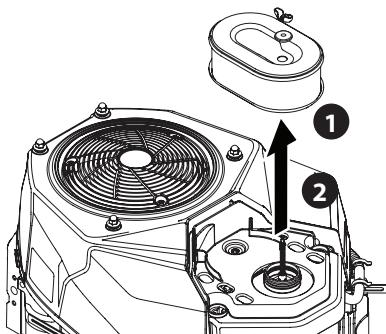

Figure 9
8. Attach the air filter cover (f). (Figure 9). Turn thumb screws clockwise a 1/4 turn until snug. Check for any misalignment.